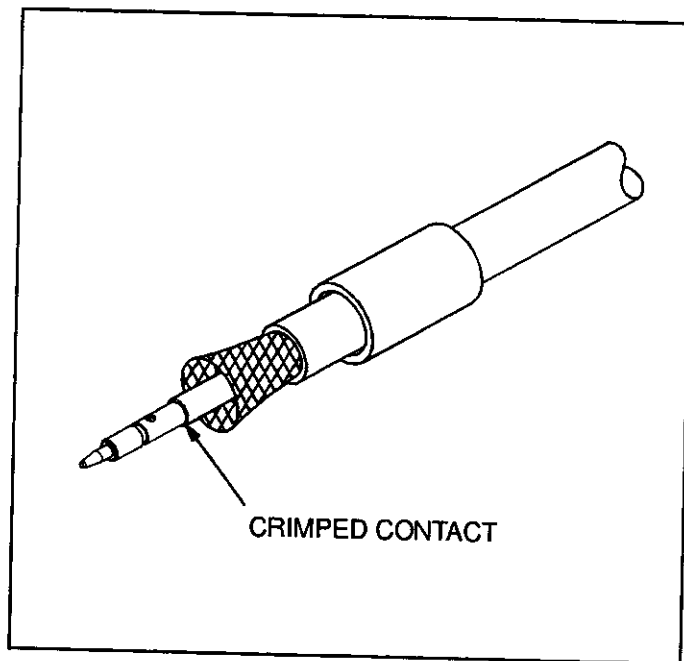

Fig. 5
2. Insert center conductor into contact; then crimp contact using the Pro-Crimper tool (fitted with the appropriate die assembly). See Figure 5.